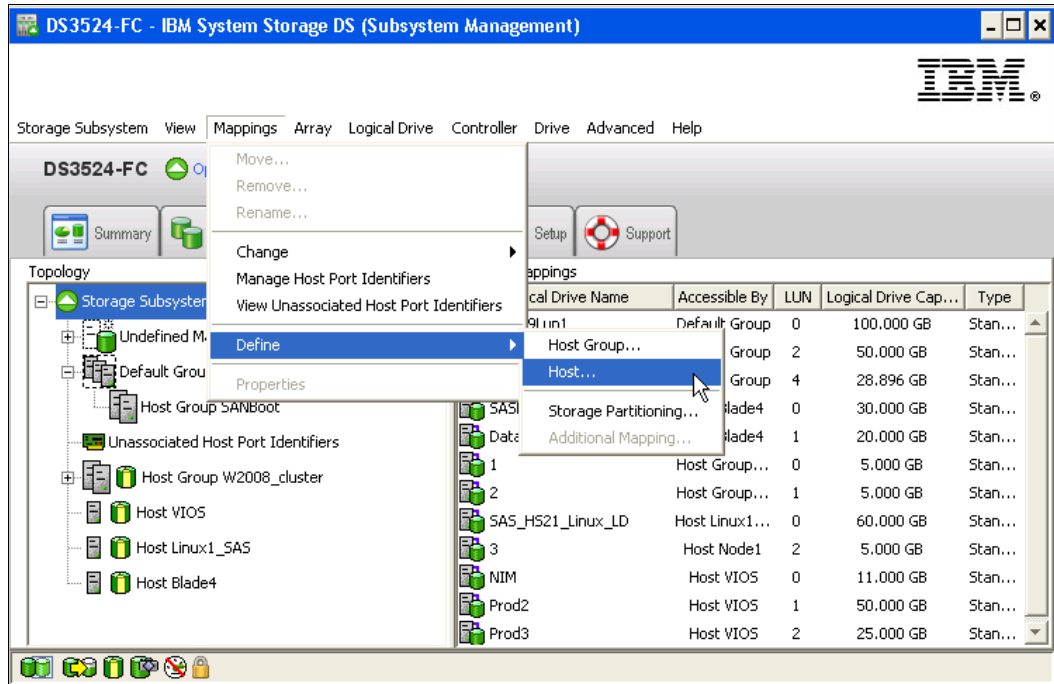

Figure 19-3 Define Hosts
4. Click the Mapping tab, and then click **Mapping** → **Define** → **Host** as shown in Figure 19-3 on page 559. Specify the host name and the host interface type. Add the host port identifiers and select the appropriate host type. In our example, we defined Node1-Blade5 and Node2-Blade6 as our two cluster nodes.